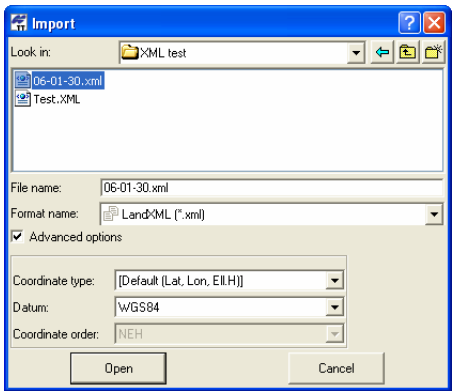

Figure 3-16. Import Land XML File
4. Select the desired *Advanced* options to assign an additional options for each Design formats (Figure 3-16).